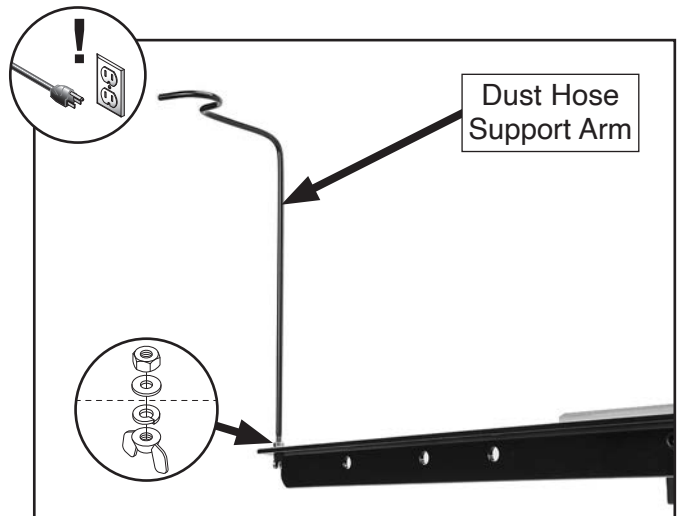

Figure 3. Location of dust hose support fasteners.
3. Remove dust hose support arm from rear rail (see **Figure 3**). Retain fasteners for use in later steps.
13. Attach dust hose support arm to long rear rail with fasteners removed in **Step 3**. Orient support arm so open end of hook faces outward, as shown in **Figure 3** on **Page 2**.